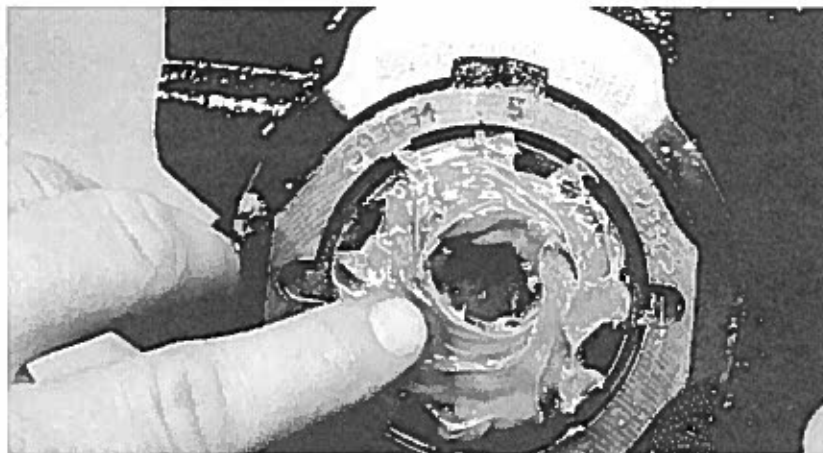

Figure 2
3. Lubricate the face of the retainer with clean chassis lube (Figure 2).